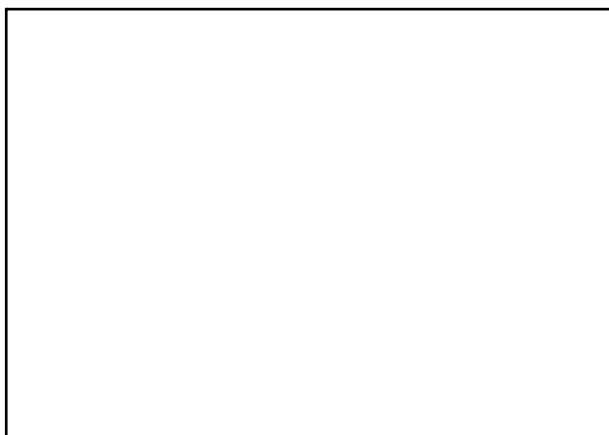

Fig. 4
- Release clip (2, Fig. 4), remove lid (4) and clean.